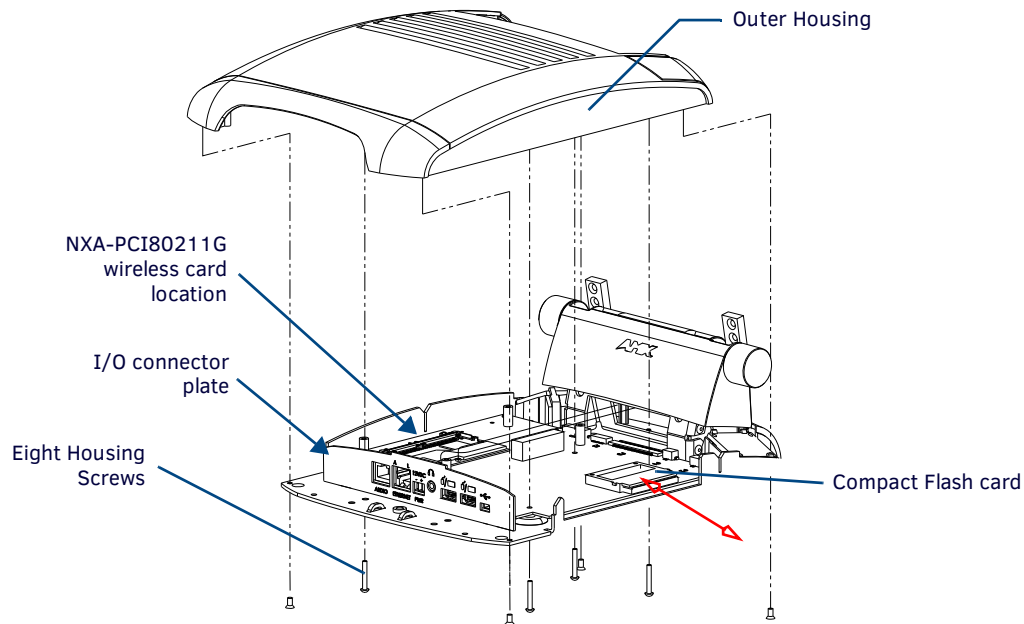
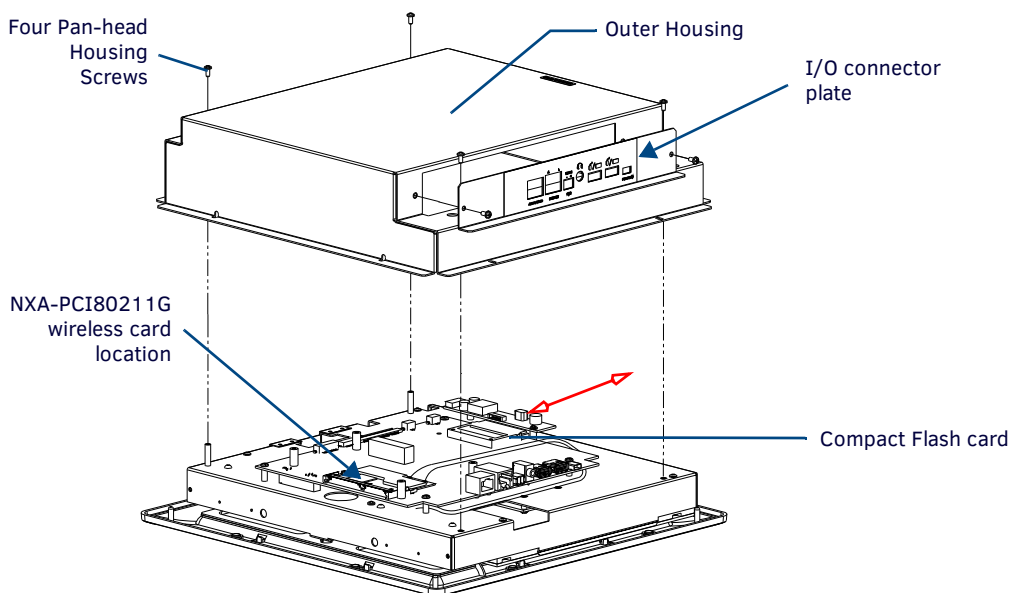

FIG. 20 Location of the Compact Flash card and I/O plate on NXT
FIG. 23 Location of the Compact Flash card and I/O plate on NXD
1. Discharge any static electricity from your body by touching a grounded metal object and then locate the existing Compact Flash card (factory-shipped with 128 MB) on the main board (FIG. 20 for Table Top panels and FIG. 23 for Wall Mount panels).